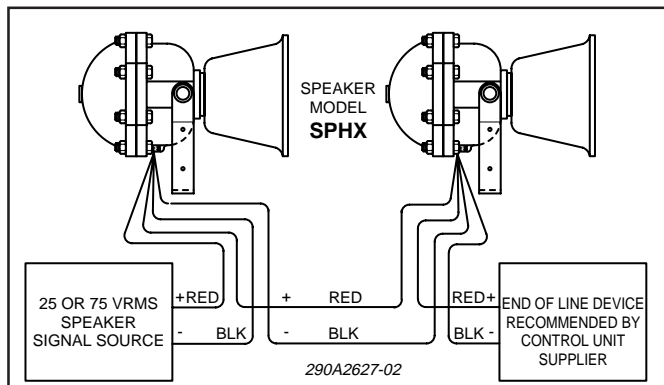

Figure 2. Typical Installation Wiring.
- a. Connect audio leads, common leads (-) to common terminal and positive (+) leads to desired wattage terminal (see figures 2 and 3).